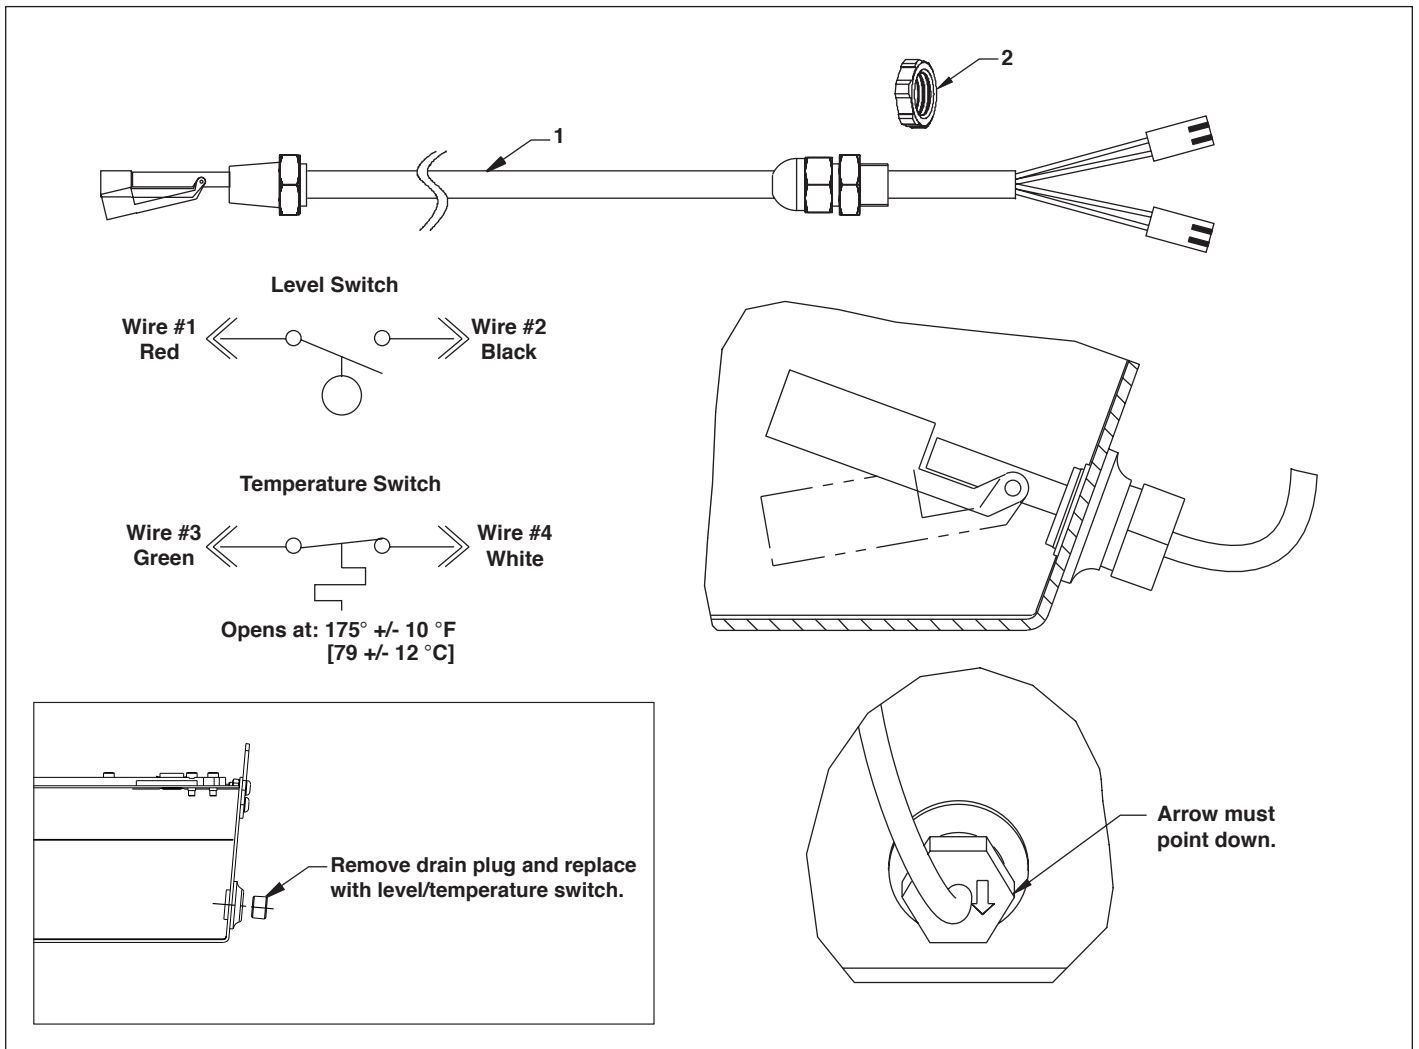

Figure 1, Mounting Details, ZLS-U4 Level/Temperature Switch Assembly
Repair Parts List for Figure 1
Refer to Figure 1 during the following steps.
5. Slide the plastic locking nut over the cable and thread it onto the cable bushing (see Fig. 1). Tighten the locking nut only until snug - do not overtighten. The nut may crack if it is overtightened.